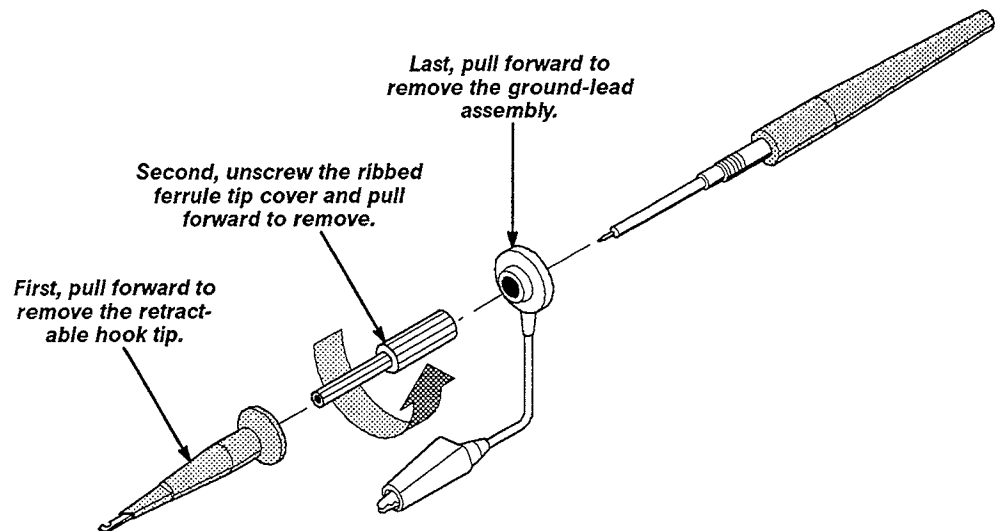

Figure 5-5: Exposing the Inner Probe Tip
- a. *Expose the Inner Probe Tip:* Follow the instructions in Figure 5-5.
- b. If substep 2b was passed, the probe adjustment is finished. Reverse the instructions in Figure 5-5, page 5-13, to reinstall the retractable hook probe tip.
- The probe tip should be exposed from the procedure *Measure Probe Bandwidth*. If not, follow the instructions in Figure 5-5 to expose the probe tip.
3. *Disconnect the hookup:* Unplug the probe from the BNC-to-probe tip adapter. Reverse the instructions in Figure 5-5, page 5-13, to reinstall the retractable probe tip.